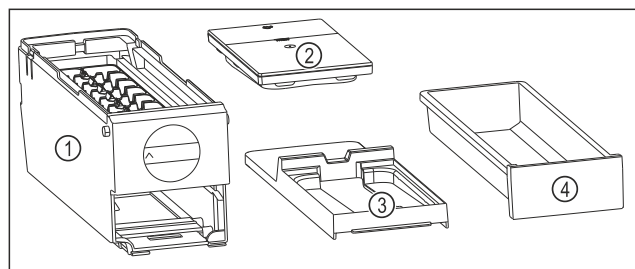

Fig. 156 Components of the EasyTwist-Ice
- EasyTwist-Ice is dismantled into four parts. (see Fig. 156)
- Only dismantle the EasyTwist-Ice into the components shown. (see Fig. 156)
- Clean the EasyTwist-Ice body Fig. 156 (1) as a whole.